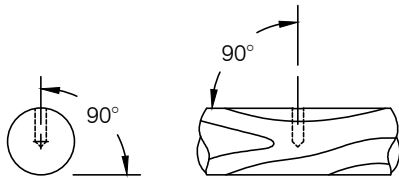

fig 7
- Important:** Allow adhesive used in **step 7** to cure before handling the rail. Holes must be drilled perpendicular to the railing and to the flat surface on which the rail is laid, see **fig 7**. Failure to do so may prevent railing from mounting properly to wall.